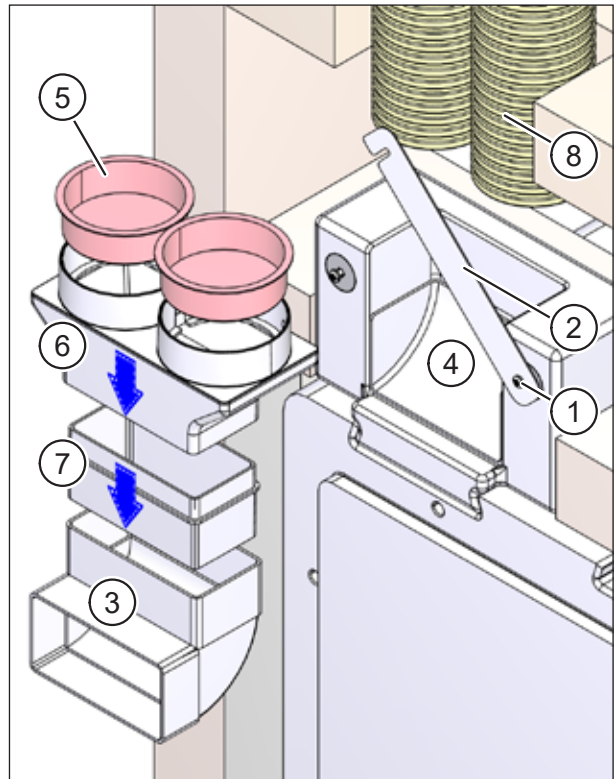

Fig. 29: Joining flexible pipe connectors and cutting flexible pipes to length
- ▶ Loosen the two cross-head screws (item 1 in Fig. 29) and lift up the bar catch (item 2 in Fig. 29).
- ▶ Remove the flat ductwork bend (item 3 in Fig. 29) from the ductwork connection adapter (item 4 in Fig. 29).
- ▶ Remove the red protective cover (item 5 in Fig. 29) from the flexible pipe adapter (item 6 in Fig. 29) M-WRG-FRA75 (part no. 5056-00/75) or M-WRG/FRA63 (part no. 5056-00/63).
- ▶ Insert the fitting adapter M-WRG-FSA lang, part no. 5375-00 (item 7 in Fig. 29) into the flat ductwork bend (item 3 in Fig. 29).
Make sure that you insert the fitting adapter so that the short side points up (see item 7 in Fig. 29).
- ▶ Attach the flexible pipe adapter (item 6 in Fig. 29) to the fitting adapter (item 7 in Fig. 29) and seal the join with a layer of sealing tape 30 mm wide.
- ▶ Insert the assembled flexible pipe connectors (items 3, 6 and 7 in Fig. 29) into the ductwork connection adapter (item 4 in Fig. 29) to test the fit.
- ▶ Shorten the flexible pipes (item 8 in Fig. 29) so that they can be inserted into the flexible pipe adapter (item 6 in Fig. 29).